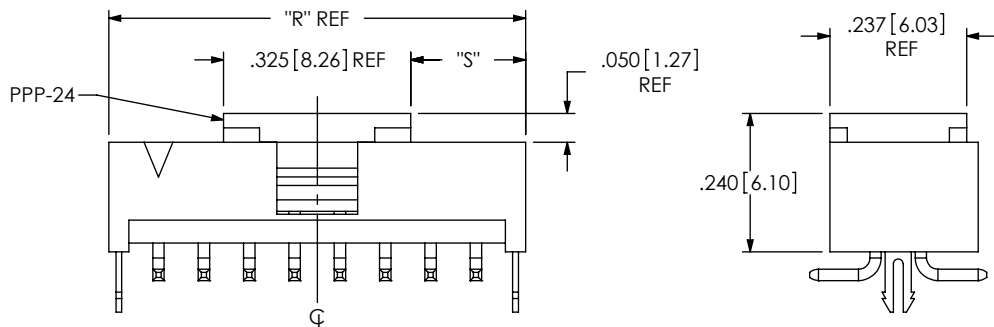

FIG 4
- P: PICK & PLACE PAD (USE PPP-24, SEE FIG 4, SHT 2) (-SM OPTION ONLY)